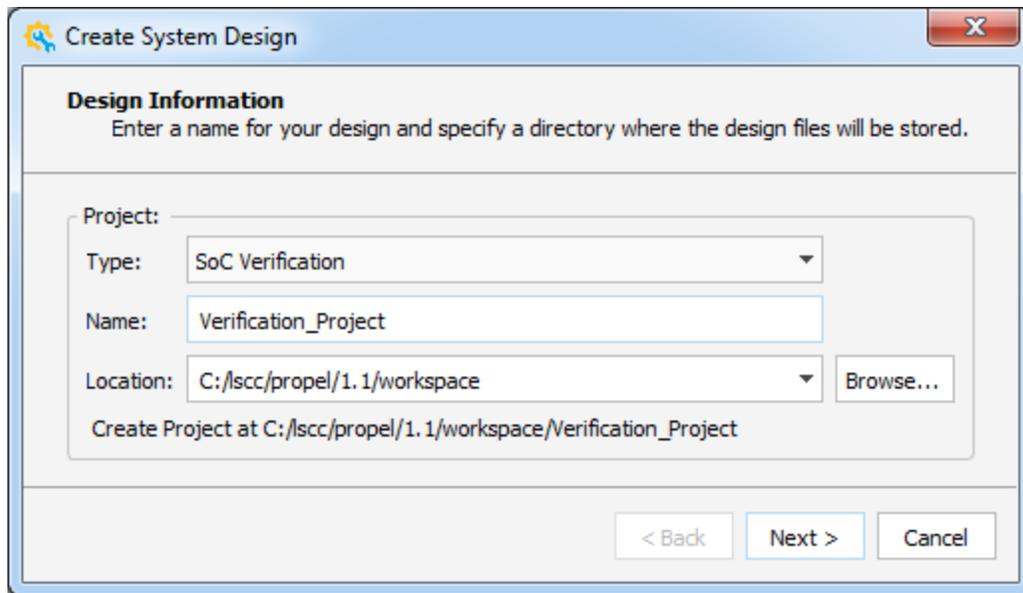

Figure 2.51. Create System Design – Design Information wizard
1. Choose **File >  New Design** from the Lattice Propel Builder Menu Bar. The Create System Design wizard opens (Figure 2.51).